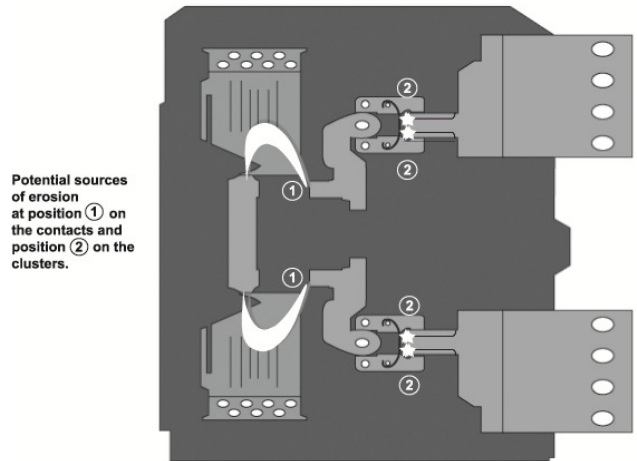
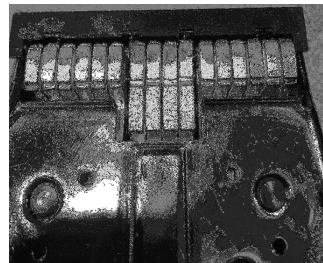

Figure 3
Figure 4
The fixed and moving contacts of any circuit breaker can be prone to contact erosion over a period of time, depending on the application. If for example the circuit breaker is switching an inductive load such as a motor, this will induce some localised arcing and small contact erosion. Over a number of cycles this can lead to an uneven contact surface, thus increasing contact resistance as shown at points ① in Fig. 3. If the circuit breaker has been subject to some lower magnitude faults over its lifetime, i.e. ground faults, this too can result in an increase in temperature at the contact point, which will transfer to the terminals. Pictures of new and slightly worn contacts are shown in Fig. 4 & 5 respectively.
The isolating clusters are spring loaded and are therefore subject to some degree of slight arcing that can lead to increased contact resistance, at points ② in Fig. 3.